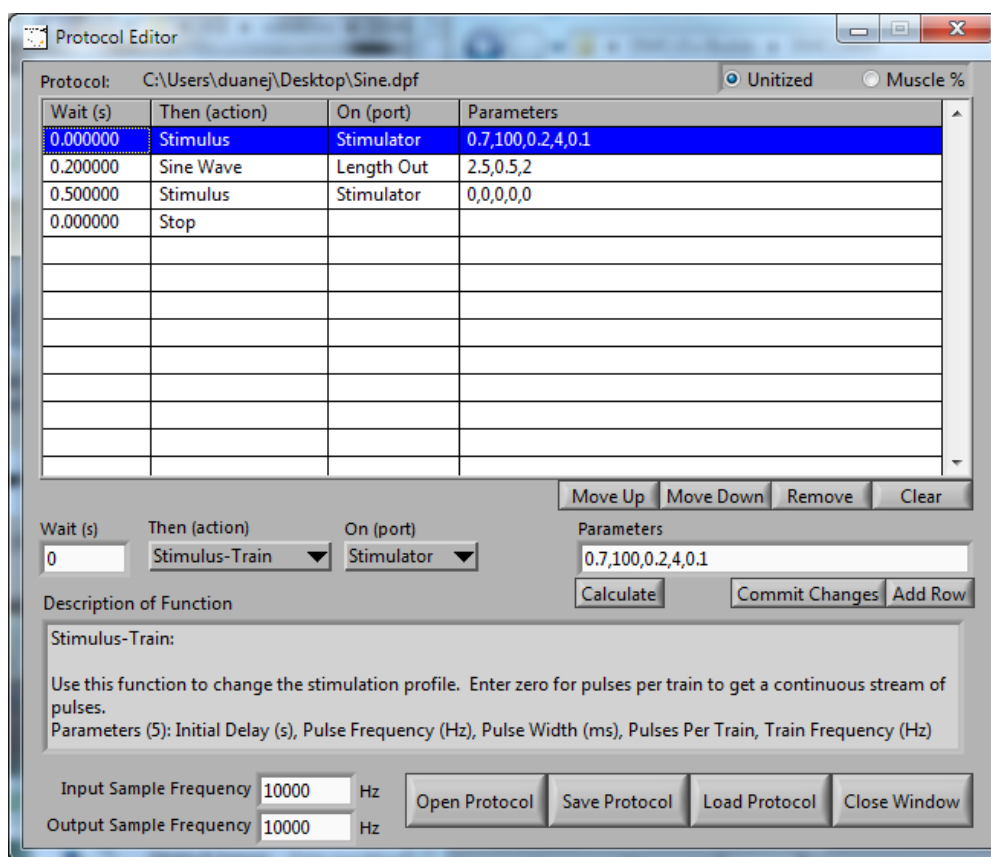

Figure 3: Protocol Editor Window
- 9) The protocol editor window (Figure 3) allows the user to create a series of events based on time. There are four headings on the screen labeled
- 11) For this example we will create a test protocol that will demonstrate length control, and electrical stimulus. The protocol will stimulate the muscle and perform a length sine movement. Enter the protocol shown in Figure 3 by entering the Wait (s), Then (action), On (port) and Parameters values in the central protocol edit section of the window. If the row doesn't exist then you can click Add Row first, enter the values and then click Commit Change or you can first enter the values and then simply click Add Row which will add the currently defined row and commit it in one step.